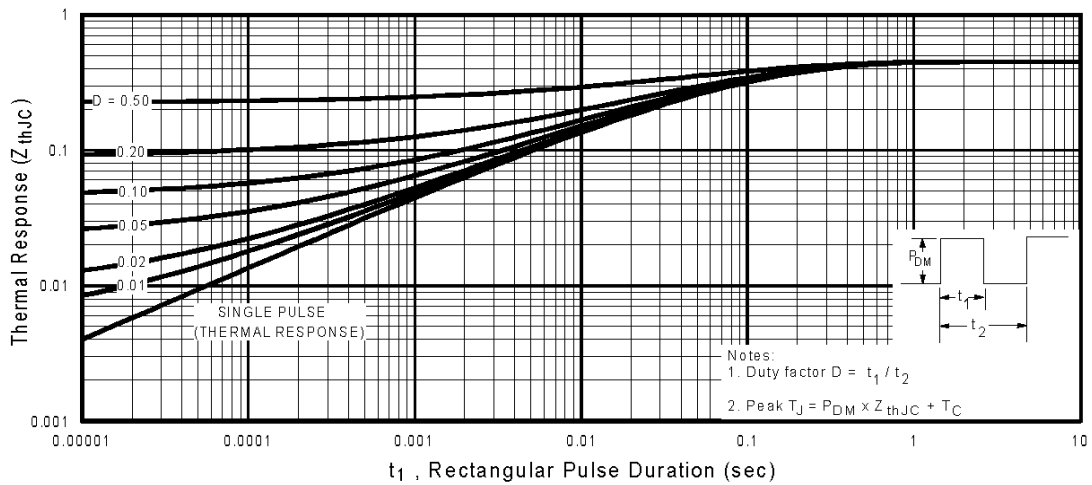

Fig 11. Maximum Effective Transient Thermal Impedance, Junction-to-Case
① Repetitive rating; pulse width limited by max. junction temperature. (See fig. 11)
② $I_{SD} \leq 20A, di/dt \leq 160A/\mu s, V_{DD} \leq V_{(BR)DSS}, T_J \leq 150^\circ\text{C}$